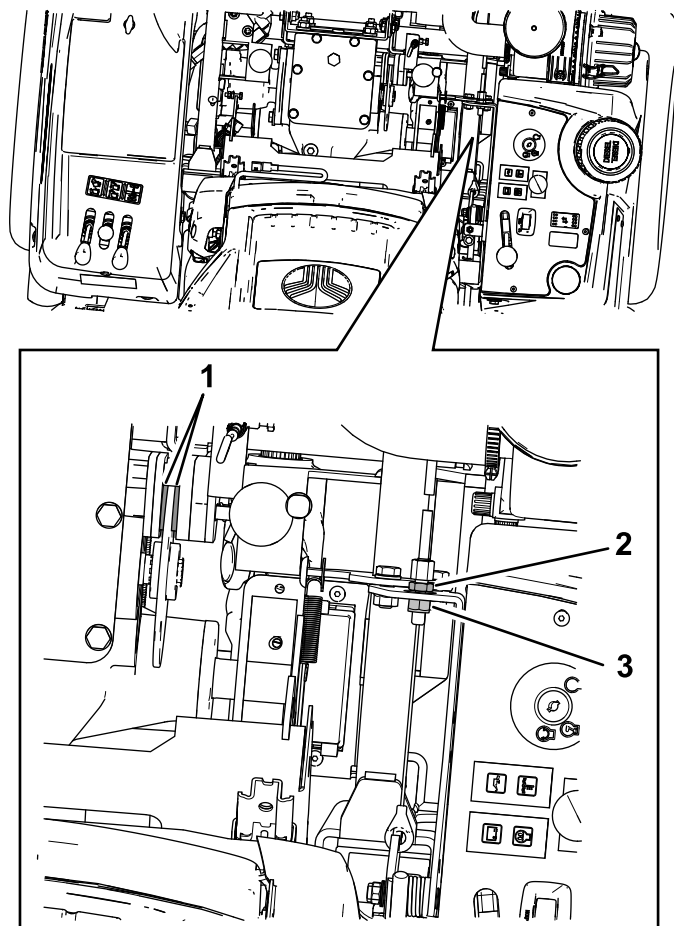

Figure 75
5. Check the gap between the disc and the brake pads (Figure 75). Ensure the gap is between 0.4 and 0.6 mm (0.016 to 0.024 inch).
6. If an adjustment is necessary, loosen the front and rear jam nut of the brake cable (Figure 75).